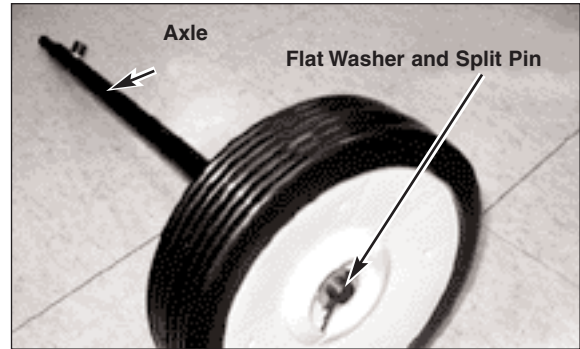

Fig. 3
1. Place one wheel on the axle followed by a large flat washer. Secure by inserting a split pin through the hole in the end of the axle, bend the ends over using pliers. (Fig. 3)